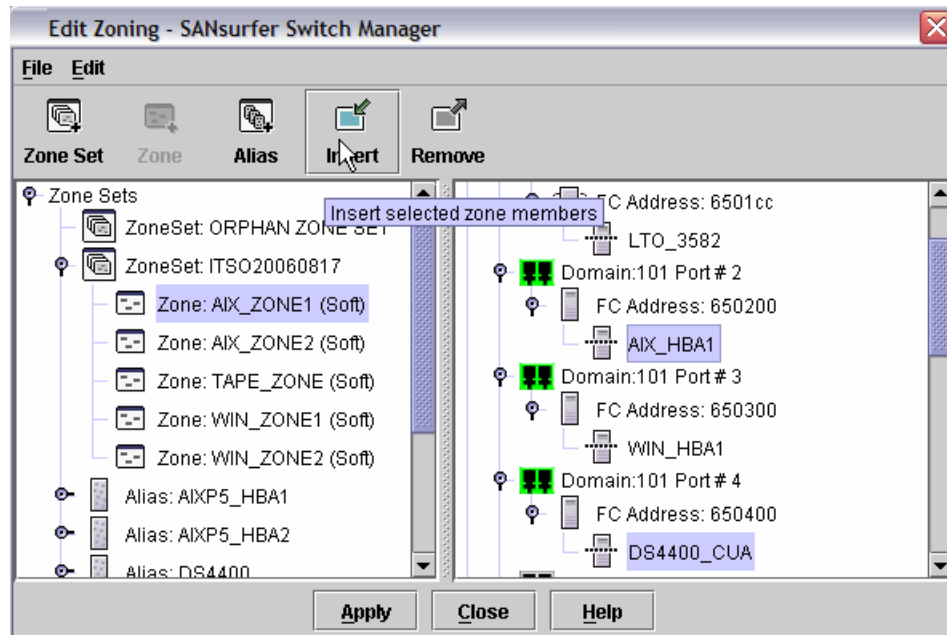

Figure 75 Adding zone members
- ▶ Select one or more members by port number, Fibre Channel address, or World Wide Name in the device tree. Then select the zone in which to add members, and select the **Insert** button, as shown in Figure 75 on page 53.